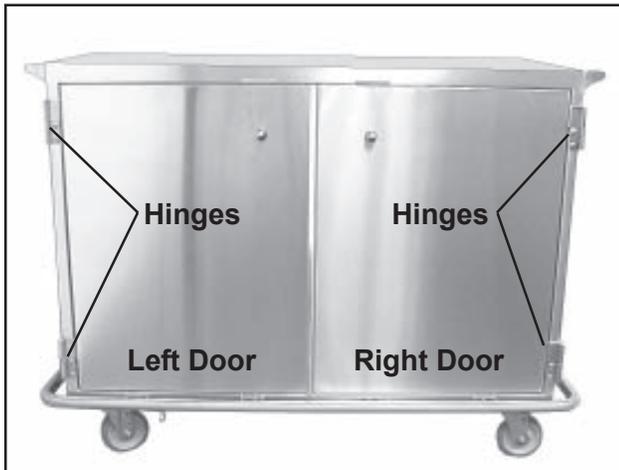

Figure 24. Door Hinges
3. Lift up on the door until the upper and lower hinge pins on the door disengage from the lower hinge halves (Figures 24 and 25), and remove the door.